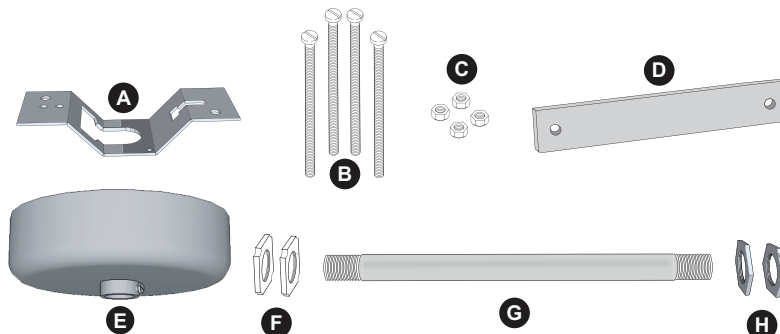
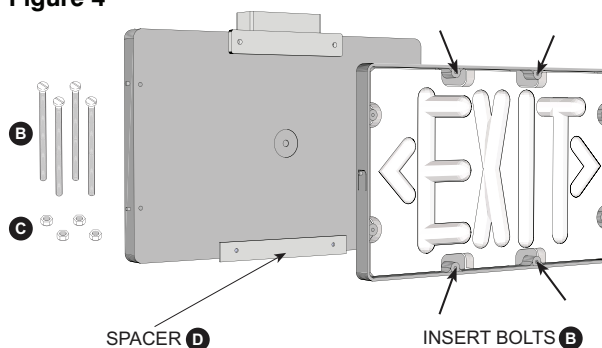

Figure 1
Figure 2
The sign has eight (8) surface mounting holes; select the best two (2) for your application (Figure 2), then using the hardware provided, affix to wall. Put legend in place, then replace the window and frame, layering each as shown in Figure 1.